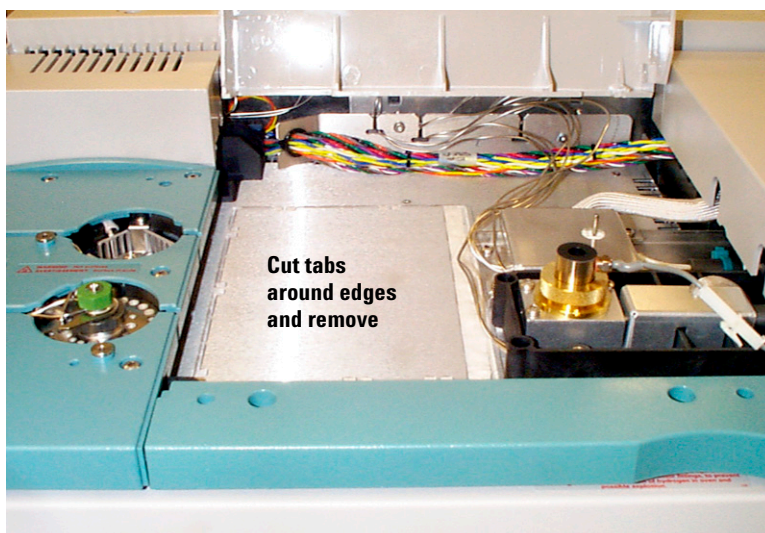

Figure 3 Remove the valve box cutout
- 2 Remove the valve box cutout using a side cutter (Figure 3).